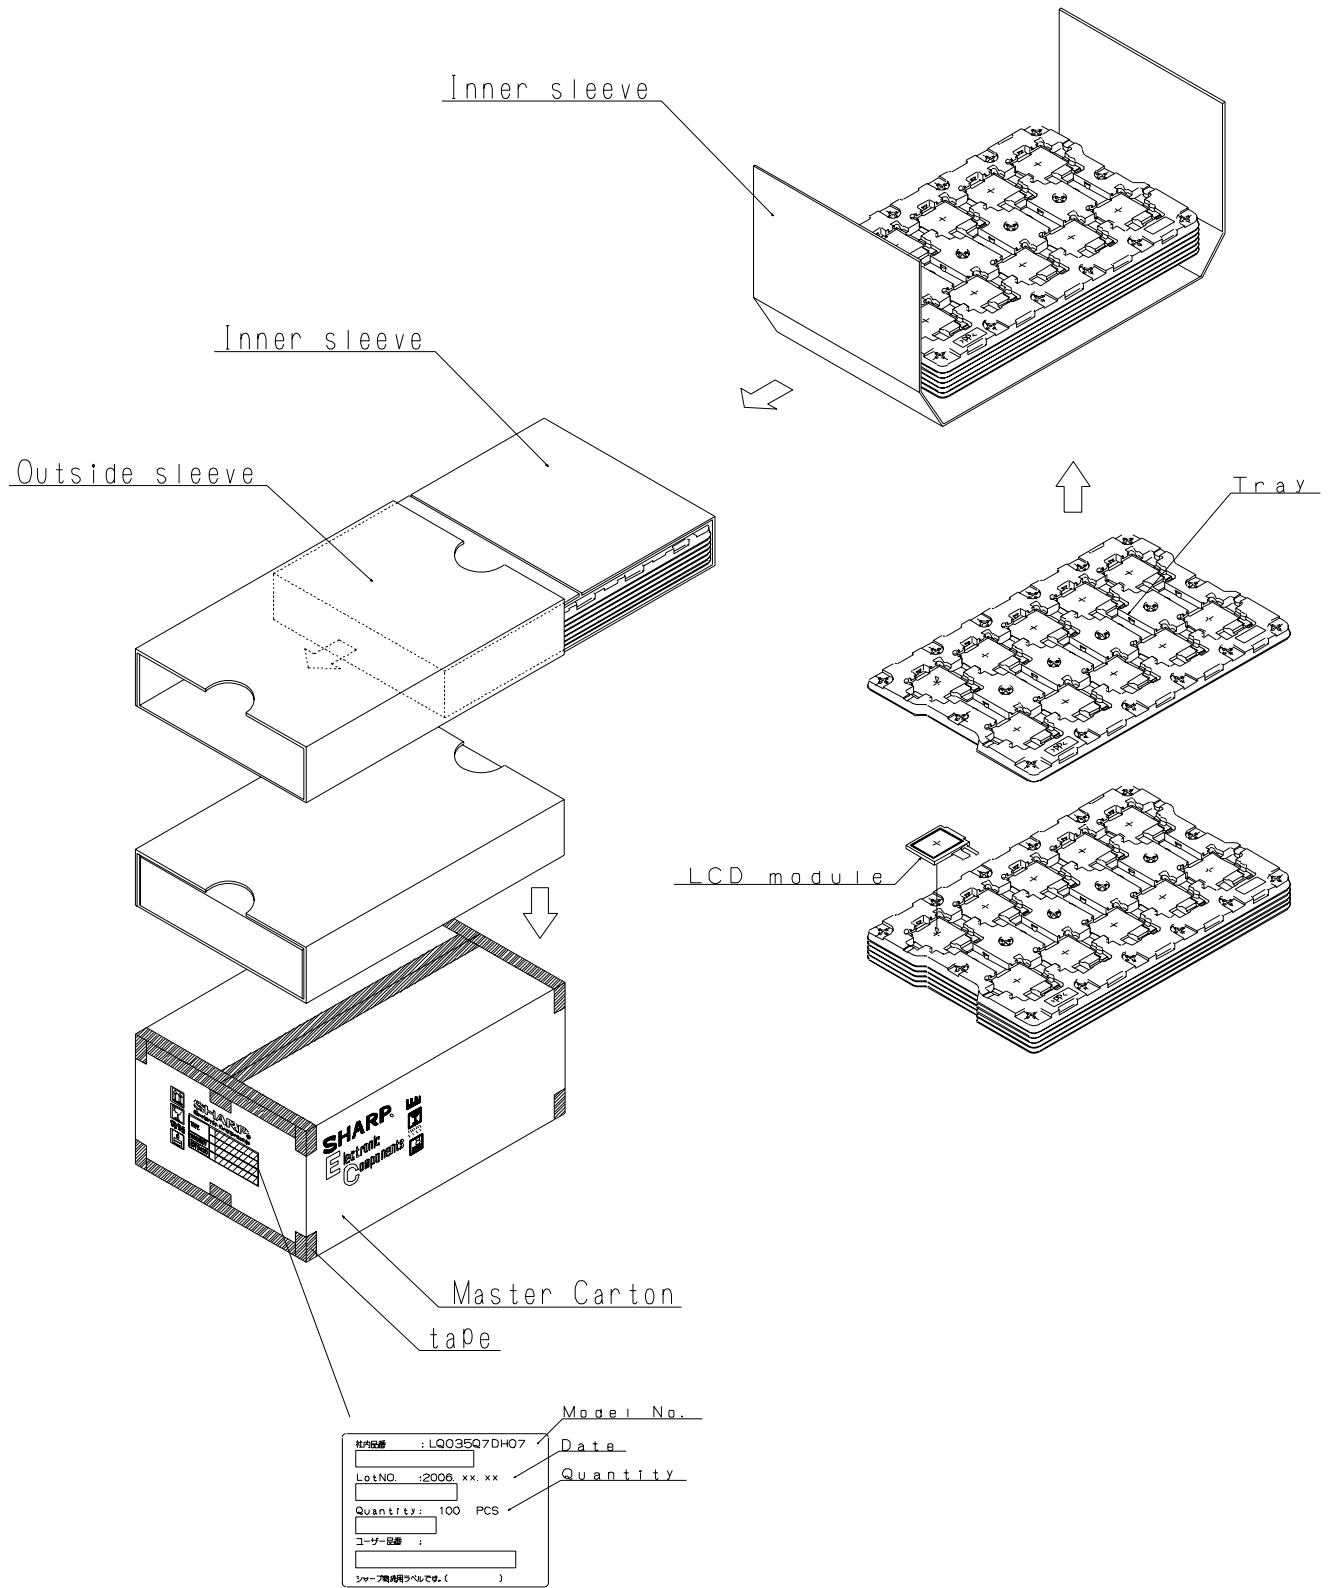

Fig.2 Forwarding form
## (15) Forwarding form (See Fig.2 Package Form)